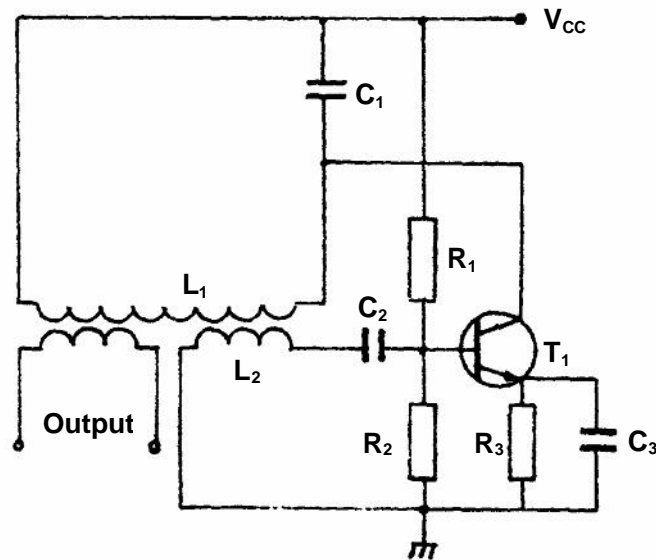

Figure 9.1
9.1.1 Identify the circuit illustrated in **Figure 9.1**. (1)